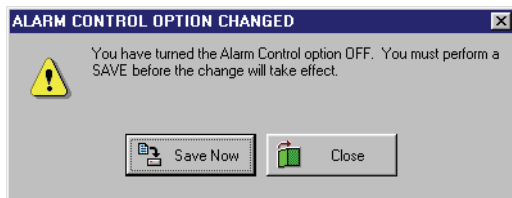

Figure 2-29: Alarm Control Option Changed - OFF
1. To disable Alarm Control, click in the Alarm Control ON check box. The check mark that was there disappears and the following window appears (see Figure 2-29).